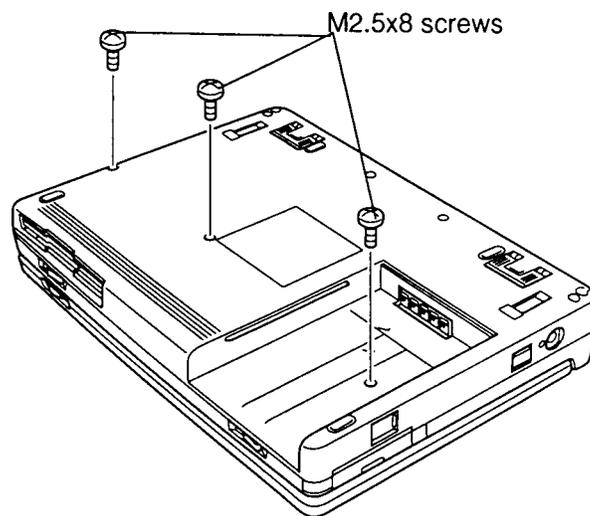

Figure 4-4 Removing three screws
To remove the T2400CS/T2400CT's keyboard, follow the steps below and refer to figures 4-4 to 4-6.
To install the T2400CS/T2400CT's keyboard, follow the steps below and refer to figures 4-4 to 4-6.
4. Turn the computer over and secure three **M2.5x8 silver screws** on the bottom (figure 4-4).
To remove an optional memory module from the T2400CS/T2400CT, follow the steps below and refer to figures 4-4, 4-5, 4-7, and 4-8.
3. Turn the computer over and remove three M2.5x8 silver screws on the bottom (figure 4-4).
To install an optional memory module in the T2400CS/T2400CT, follow the steps below and refer to Figures 4-4, 4-5, and 4-9.
5. Turn the computer over and secure three M2.5x6 silver screws on the bottom (figure 4-4).